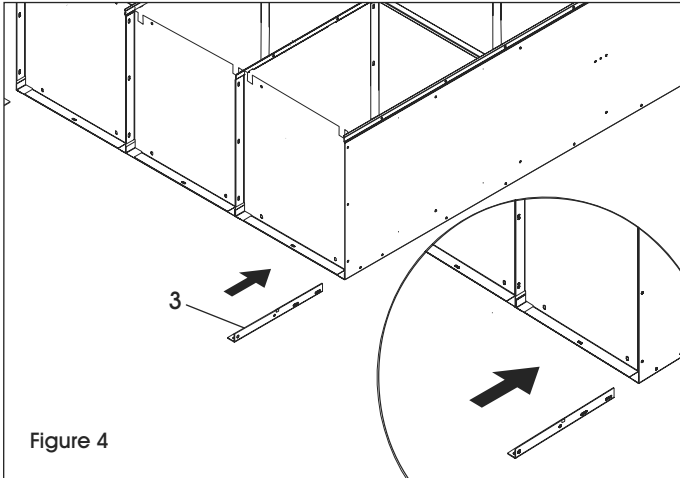

Figure 4
7. Insert rear legs (3) into outside corner between the bottom and the side. Bolt leg to side using two bolts and nuts per leg. (See Figure 4)